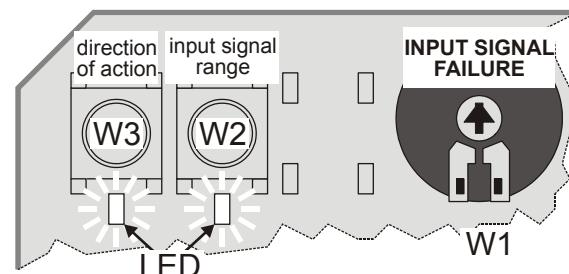

Fig. 1. Pushbuttons and potentiometer (default positions)
¹⁾ Factory setting: can be reversed by pressing the left-hand pushbutton (W3) located on the PCB (see Fig. 1 below).
The direction of action can be reversed by pressing the left-hand pushbutton (W3) located on the printed circuit board (see Fig. 1). If the corresponding LED is lit, this indicates that the actuator stem will retract at a control signal of 0(2) Vdc (factory setting); if it is dark, the actuator stem will extend at a control signal of 0(2) Vdc.
The range of the analog input signal Y can be changed by pressing the right-hand pushbutton (W2) located on the printed circuit board (see Fig. 1). If the corresponding LED is lit, this indicates that the actuator is set for 0...10 V operation (factory setting); if it is dark, the actuator is set for 2...10 V operation.
Using the potentiometer (W1) located on the printed circuit board (see Fig. 1), the actuator can be adjusted such that in case of a signal input failure (e.g. a broken wire), the actuator will run to any pre-configured position between 0% and 100%. The factory setting is with the actuator stem in the central position (50%).